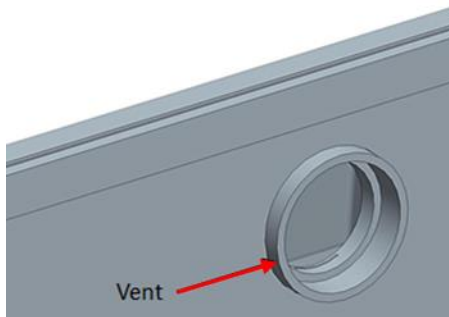

Figure 5: Place Vent Cover through Front Door
1. Push the vent through the front door as shown in Figure 5 (2 places).